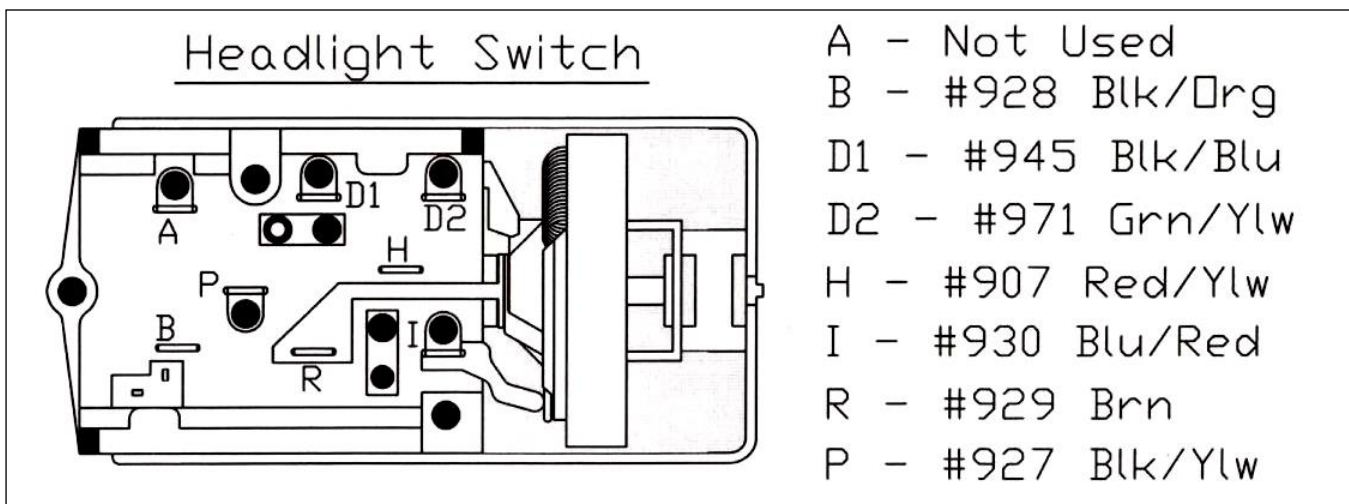

Figure 7-18 Headlight Switch Connections (All Models)
7.8.1 Connect the HEADLIGHT SWITCH wires as illustrated in **Figure 7-18**. After completing the installation of the Headlight Switch wires locate the DASH GROUND #969 wire, which is directly above the steering column in the main body of the harness and connect it to the chassis ground screw behind the gauge cluster.